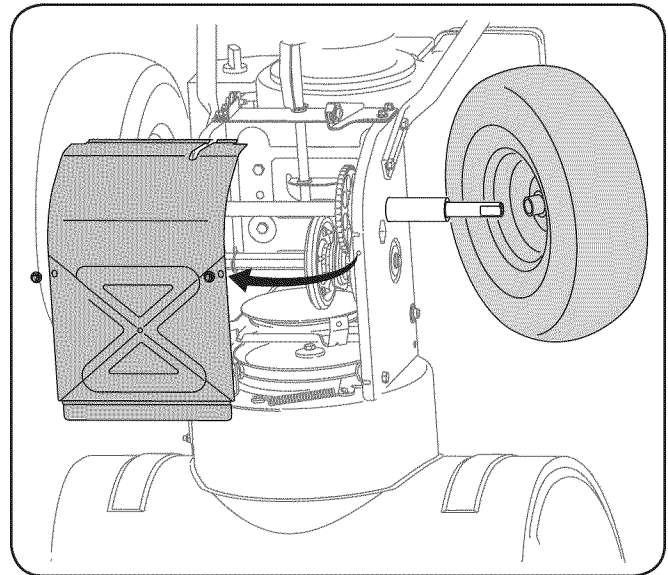

Figure 8-8
4. Remove the frame cover from the underside of the snow thrower by removing the self-tapping screws which secure it. Remove the right-hand wheel by removing the screw and bell washer which secure it to the axle. See Fig. 8-8.